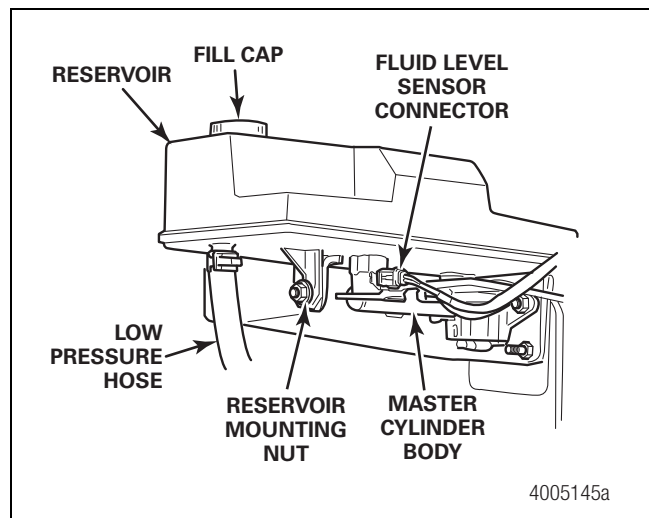

Figure 4.52
1. Install the fluid level sensor in the same direction as the switch you removed. Figure 4.52.